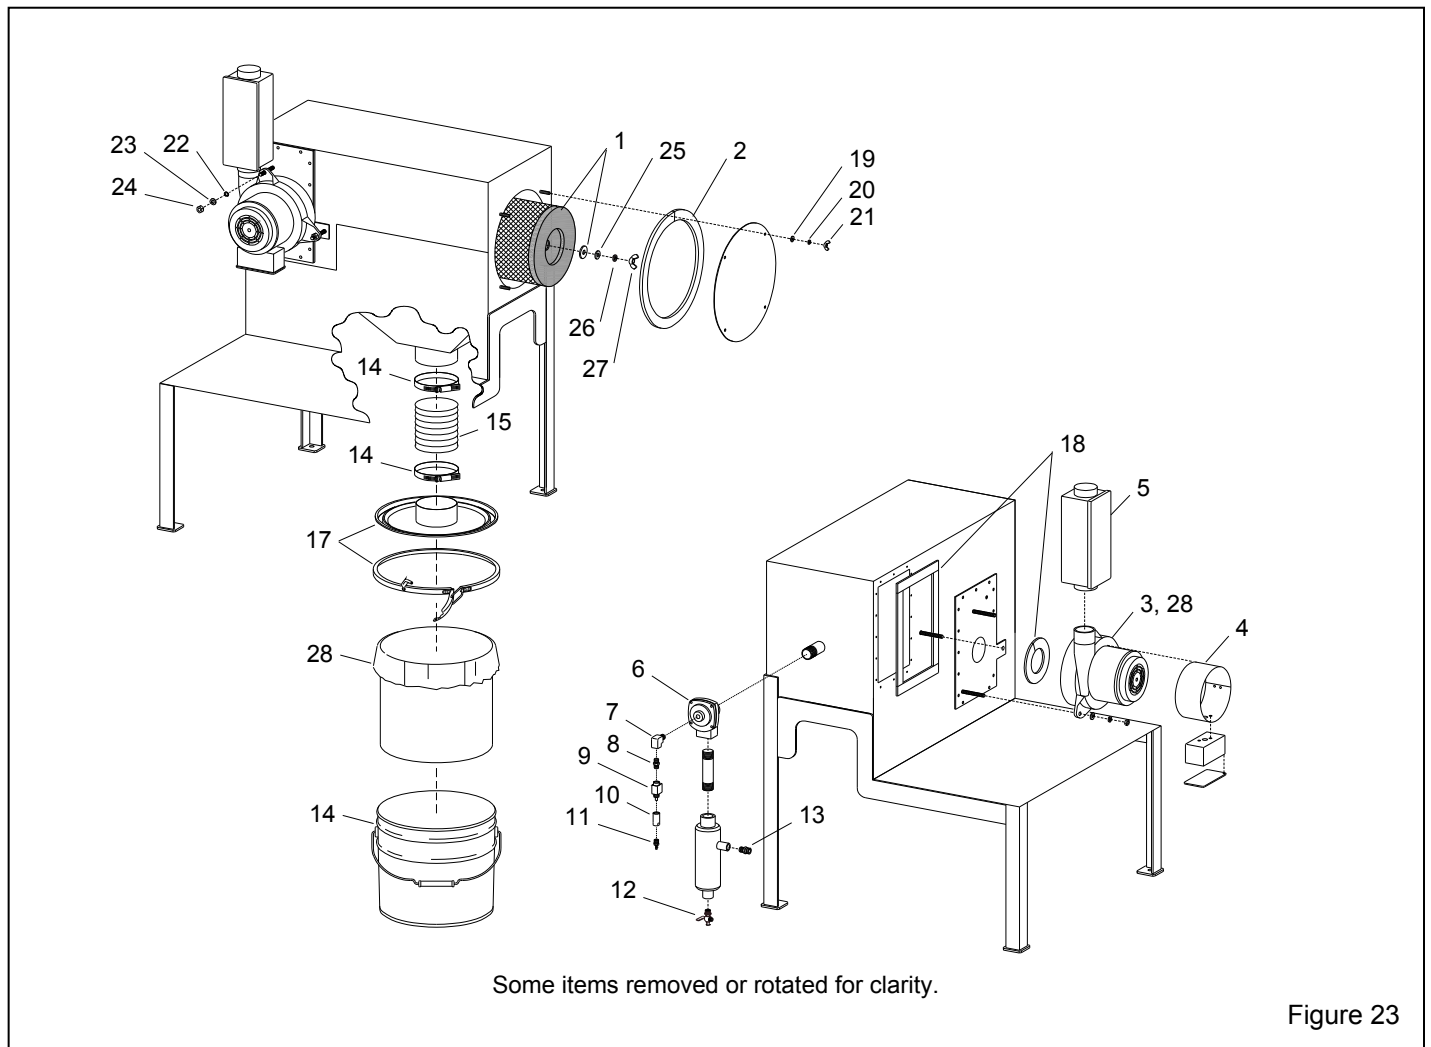

Figure 23
**8.6 Dust Collector Assembly – Figure 23**